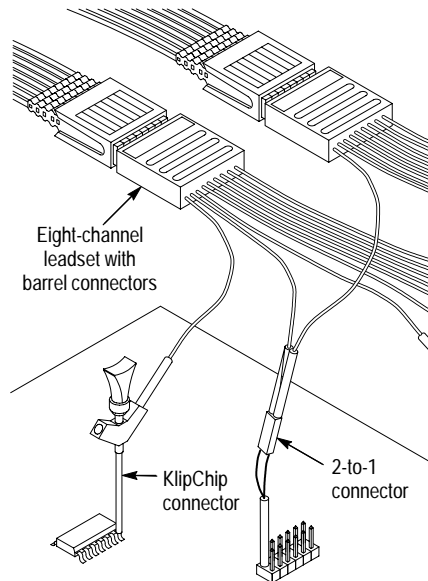

Figure 1: Leadset connections (barrel connectors shown)
These instructions support several probe accessory kits, which contain leadset connectors for the P6417 and P6418 Probes. The leadset connectors simplify connections between the logic analyzer and your target system. See Figures 1 and 2 for examples.
4. If necessary, use the 2-to-1 or 4-to-1 connectors to connect multiple leads to a single pin on the system under test. Figure 1 on page 1 shows an example of a 2-to-1 connector in use.